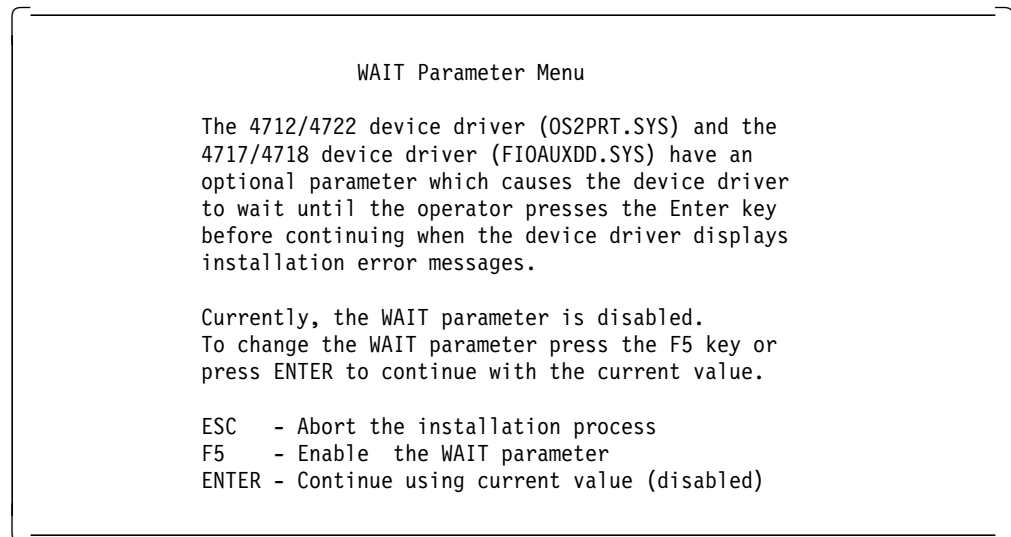

Figure 54. Wait Parameter Menu
3. Press Enter and Figure 54 on page 111 will be displayed.